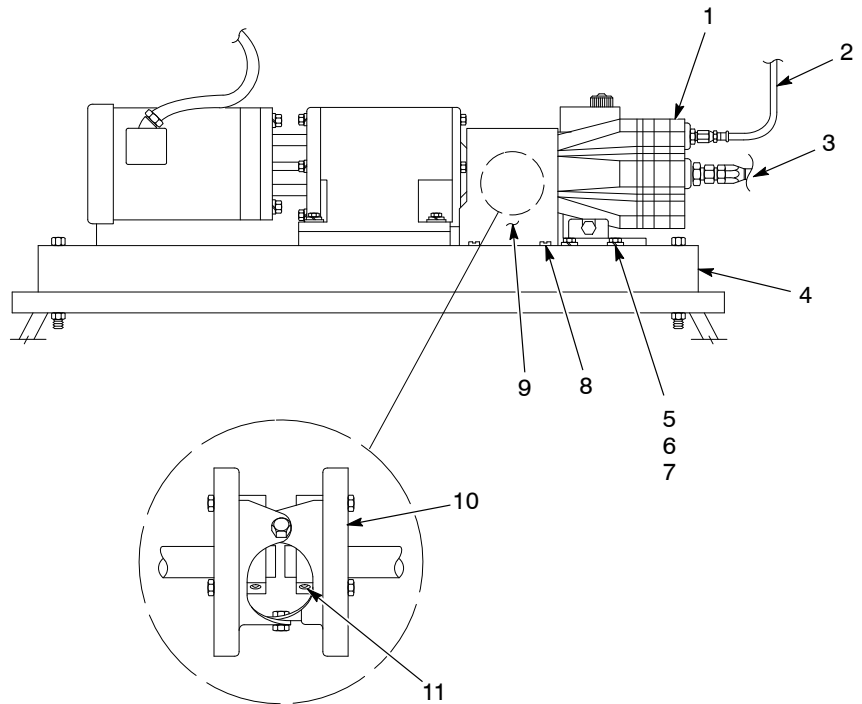

Figure 1 Removing the Pump
2. See Figure 1. Remove the screws (8) securing the shroud (9).
3. Loosen the set screws (11) on the coupling (10).
5. Remove the screws (5), lock washers (6), and flat washers (7) securing the pump (1) to the frame (4).